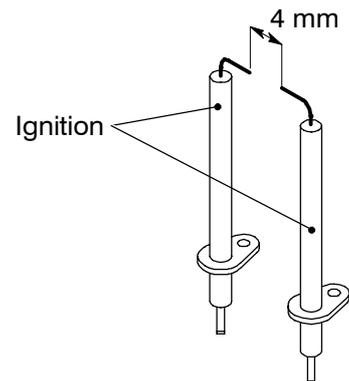

Fig. 3
- 2 Check for the correct distance between the metallic edges of the ignition electrodes (see Fig. 3).
- 3 Remove the plate *E* (see Fig. 3 on page 9).